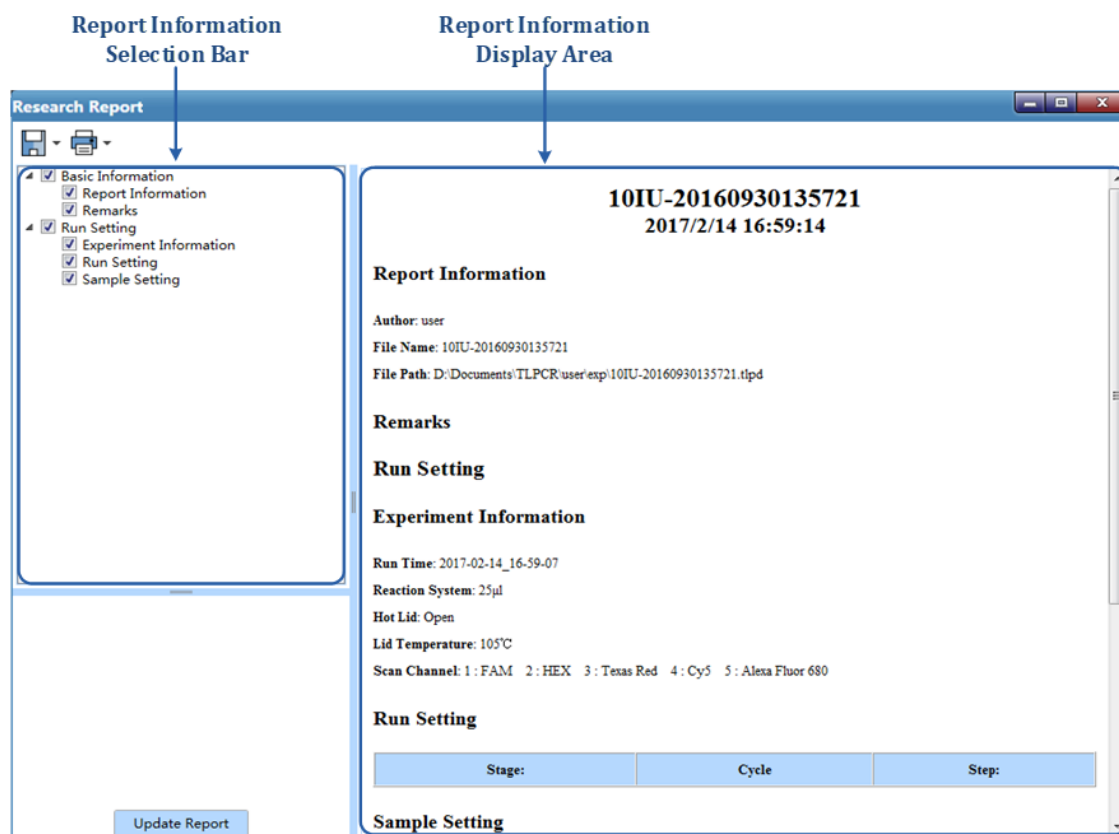

Figure D-3.4. Research Report Interface - Research Report
3. **Research Report:** Click **Research Report** option in **Tool** submenu and the application software will automatically pop up the research report interface, as shown in figure D-3.4.